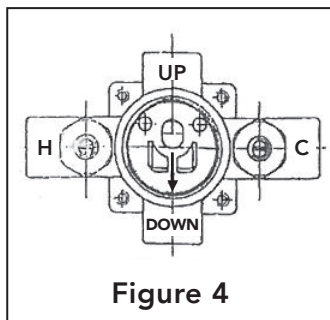

Figure 4
7. Connect hot and cold piping to valve. **Figure 4**
8. Connect shower and or tub piping to valve. Install pipe plug on any unused port. **Figure 4**
3. Replace lower cartridge, making sure arrow is pointing down. **Figure 4**